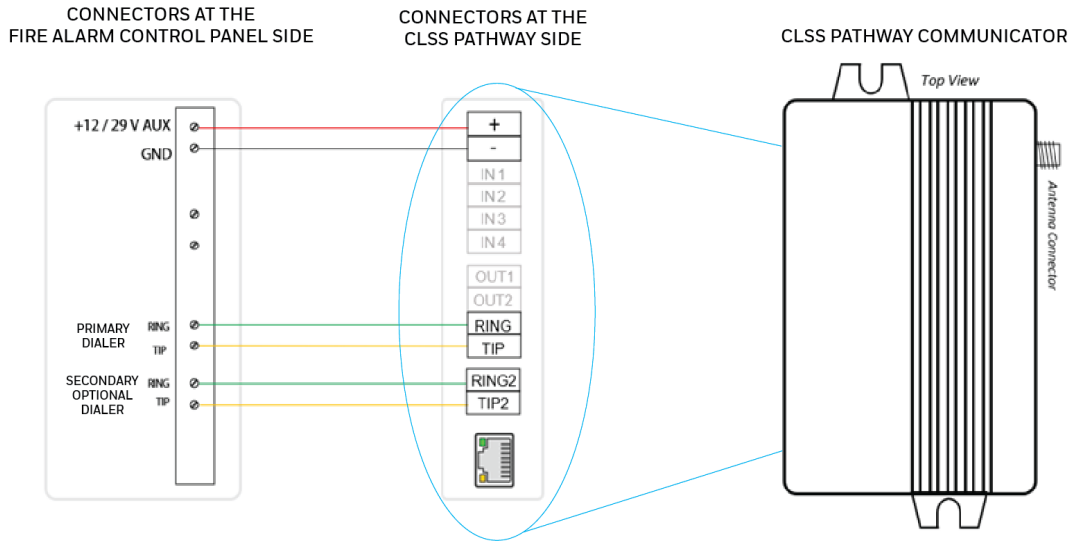

Figure 5-2: Wiring for Dialer Capture
01. Connect the panel to the communicator as specified in Figure 5-2: Wiring for Dialer Capture.